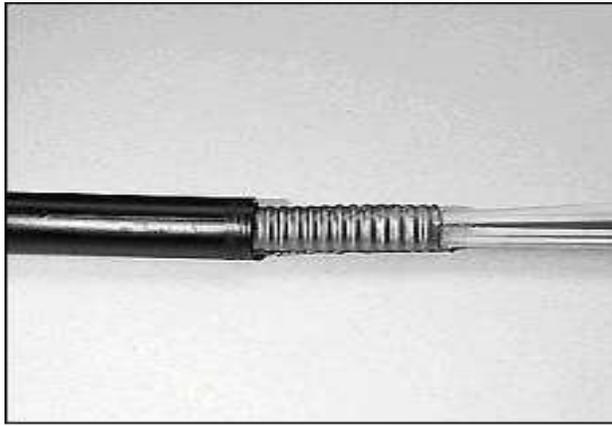

Figure 15 – Expose 1 inch of armor for grounding.
4.20 Make a longitudinal cut and remove the 1-inch section of outer jacket as shown in Figure 15.